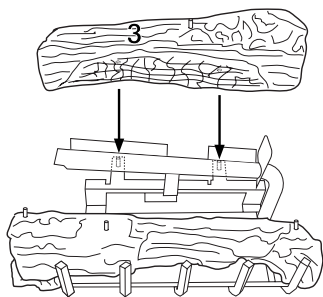

Figure 42 - Installing Log No. 3
3. Place log #3 (rear log) onto pins on rear of grate as shown in Figure 42.